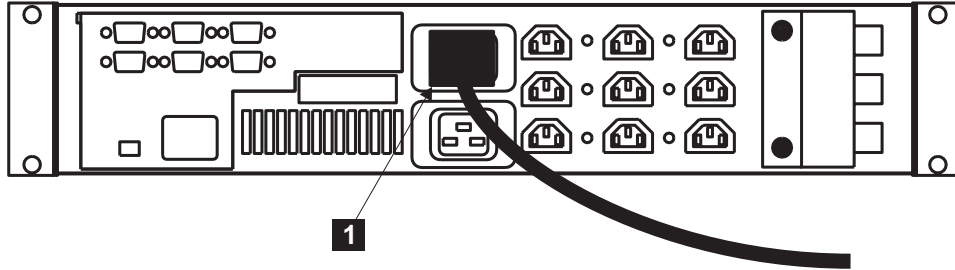

Figure 31. Installing the 2145 UPS power cable
9. At the back of the 2145 UPS, plug the 2145 UPS main power cable (**1** in Figure 31 on page 58) into the power socket.